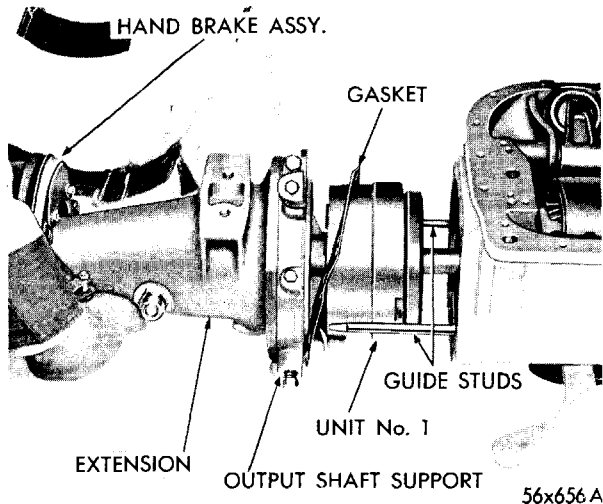

Fig. 90—Removal of Output Shaft Support, Extension, Handbrake Assembly and Unit No. 1 as an assembly
(4) Remove the bolts from transmission extension and install guide studs, Tool C-3283.
(5) As a complete assembly, remove the hand brake, extension, output shaft support and Unit No. 1, as shown in Figure 90. **Support assemblies as much as possible when removing to prevent damaging seal rings on intermediate shaft. Refer to "Power Train Units - Removal". Unit No. 2 and Unit No. 3.**